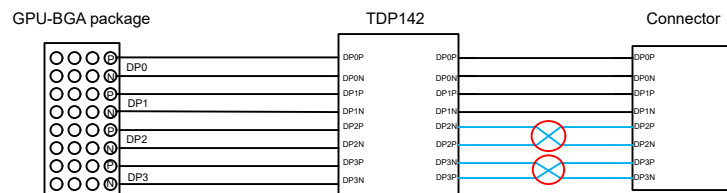
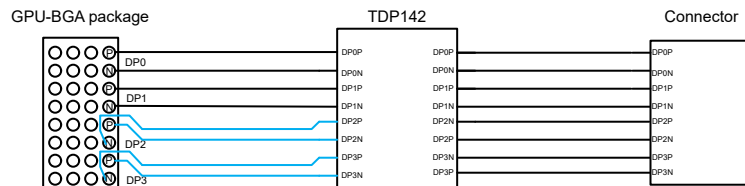

Figure 6-1. Signal Crossing on the Output
Figure 6-2. INDP2 and INDP3 Polarity Swap
- The layout can face signal crossing on OUTDP2 and OUTDP3 due to mismatched order between the output pins of the device and the connector. One of the designs is to do polarity swap on the input of the device when GPU is BGA package. This can minimize the number of VIAS being used. Please refer to Figure 6-1 and Figure 6-2.